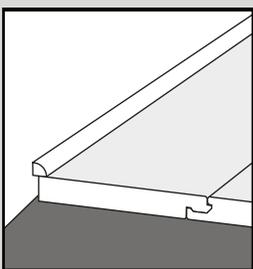

Fig. 7
9. Once the floor is installed, remove the spacers; sweep the floor with a soft brush. Fix the base boards or suitable edge trim (available from your local distributor) to cover the expansion gaps. These should be attached to the wall and not the floor, such that the Korlok remains free to move (Fig. 7 & 8).